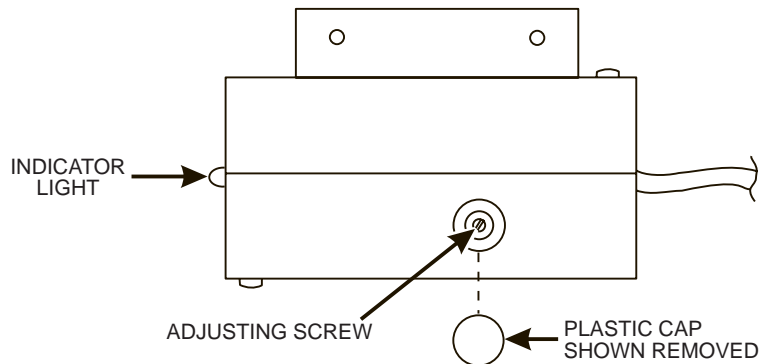

FIGURE B1
1. Remove the plastic cap in the rear of the sensing unit, exposing the potentiometer adjusting screw, as shown in figure B1.